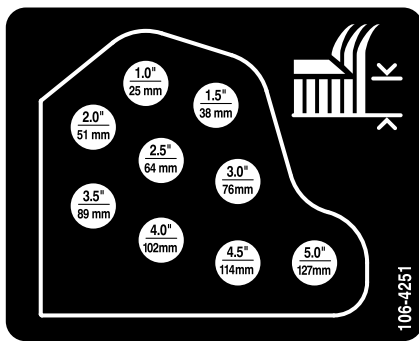

Figure 21
11. Mount the height-of-cut chains to the desired height-of-cut hole with the clevis pin and hairpin cotter (Figure 21).